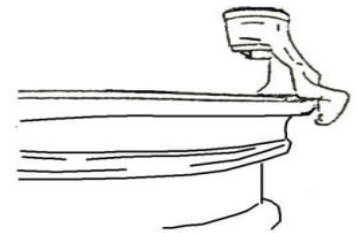

Fig.5
Lower the mounting bar until the M/D head against the edge of the rim and lock it by locking handle (B). The arm is locked in a vertical direction and the mounting head is moved to a distance of about 2mm from the rim.(Fig.5),then lock the arm using cross-arm adjusting screw.